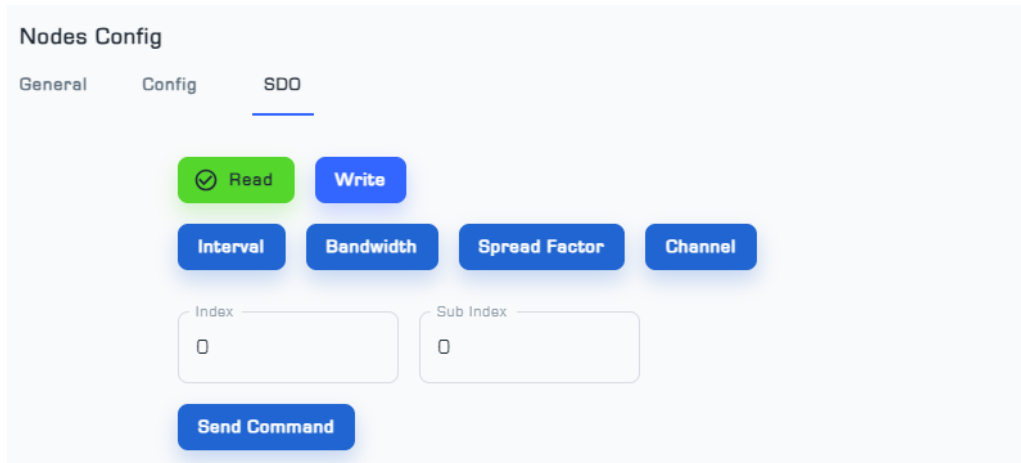

Figure 10: SDO Menu from the Node Settings page.
- The "SDO" menu is used to modify the parameters of Interval1, Bandwidth, Spread Factor and Channel. The "Write" sub-menu is used for changing settings, and the "Read" sub-menu is used for reading settings (Figure 10).